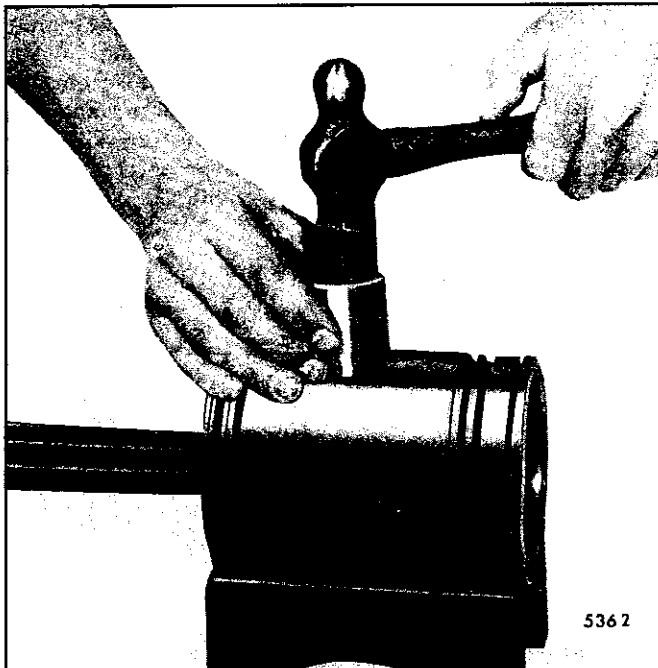

Fig. 16 - Installing Piston Pin Retainer Using Tool J 35572
9. Place a new piston pin retainer in position. Then, place the crowned end of installer J 35572 against the retainer and strike the tool just hard enough to deflect the retainer and seat it evenly in the piston (Fig. 16).